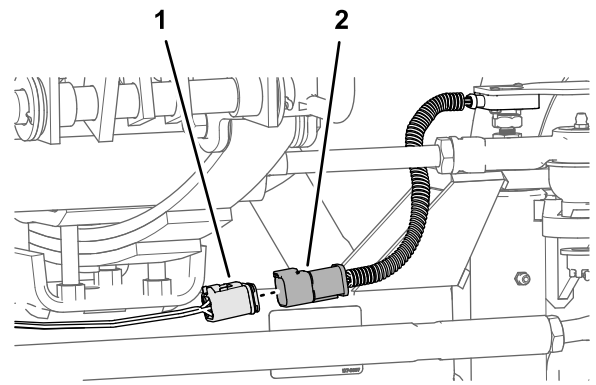

Figure 88
1. Plug the 6-pin connector of the angle-sensor harness into the 6-socket connector of the kit wire harness labeled WHEEL ANGLE SENSOR (Figure 88).